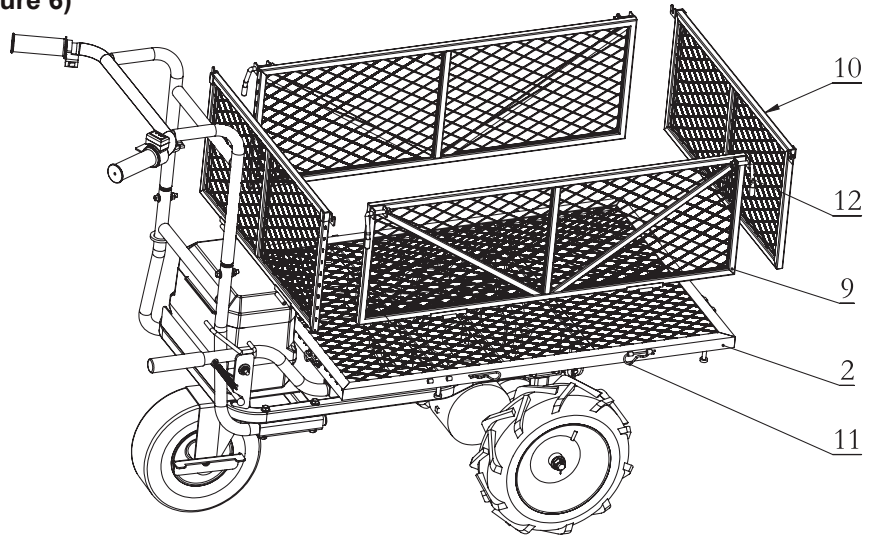

Figure 6
3. Assemble the left & right frame (9), and the front & back frame (10), locked by Pin (11).
4. Locking the entire frame by handle bar (12), the electric cart assembly finished. (See Figure 6)